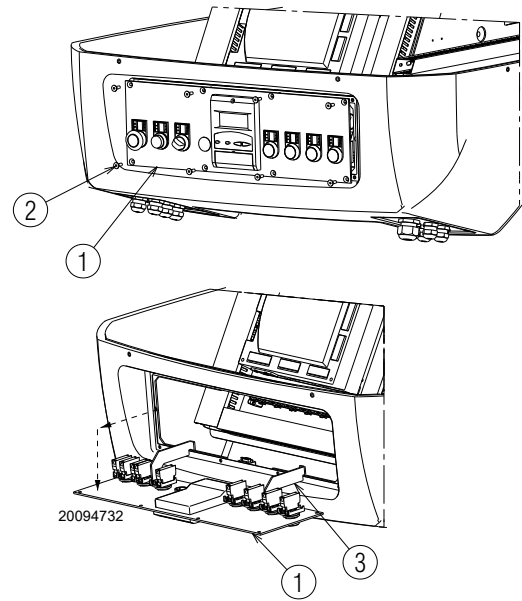

Fig. 33
- unscrew the screws 2)(Fig. 33) of the control panel 1);
- extract the control panel 1) and turn it 90°, hooking it with the brackets 3) in the profile of the electrical panel as shown in Fig. 33;